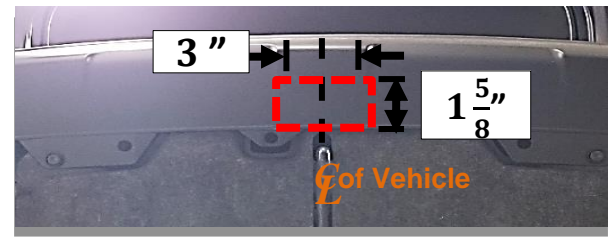

Figure 2
- Trim lower fascia** – Using a tape measure, marker, and utility knife, measure, mark, and trim the lower fascia. **See Figure 2.** Check for sensors and or wiring on the inside of the fascia prior to trimming. *Dimensions are approximate.*